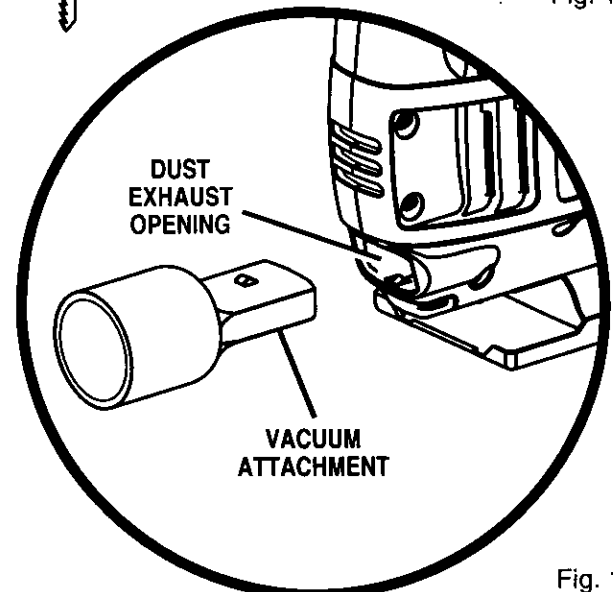

Fig. 11
See Figure 11.
- Insert vacuum attachment into dust exhaust opening. See Figure 11.